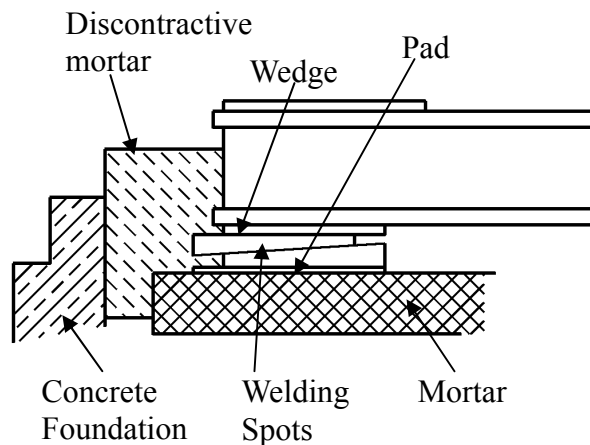

Fig. 5
- (d) Soleplate or common bed should be embedded in concrete foundation as illustrated in Fig.5. Stiff pads should also be installed beneath the wedges which are welded together at various spots about 400-500mm (15-20inches) apart etc., to enable foundation to carry evenly the weight of the whole motor.